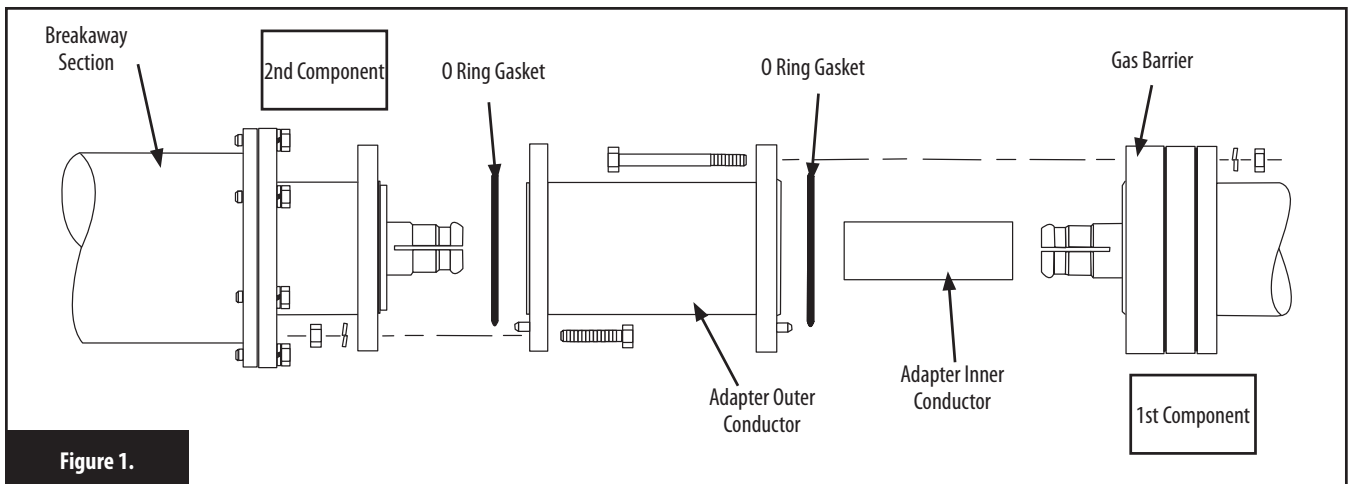

Figure 1.
(B) Engage the adapter inner conductor with the inner connector of the first line component as shown in Figure 1. Use a twisting motion to ensure complete engagement. For Types CA405, CA605, and CA705, ensure that the larger inner diameter (ie, thin-wall) side of the Adapter Inner Conductor in Figure 1 mates with Dielectric Corporation or RCA inner connector.